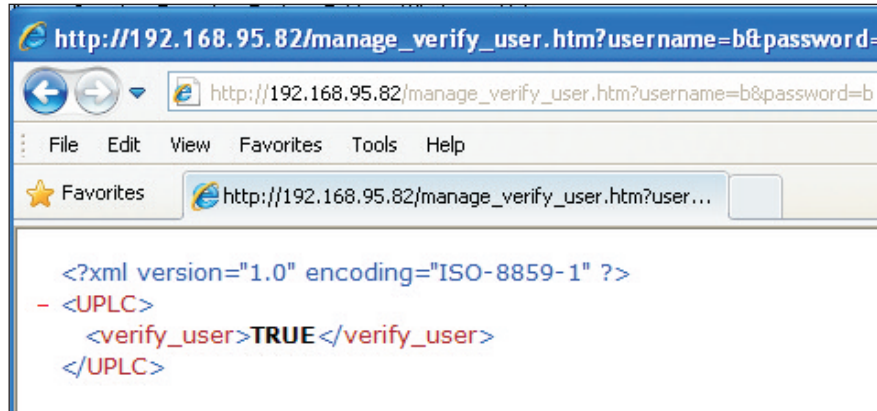

Figure D-3. Verify User – Successful Return
2. Verify User (Figs. D-3 to D-6)
Returns Fig. D-3.